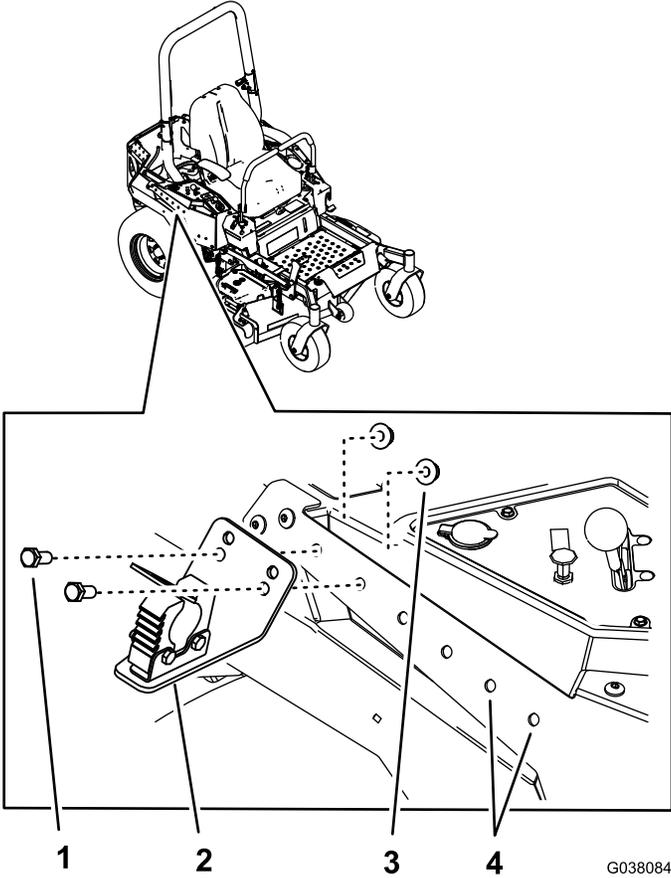

Figure 7
2. Install the rear mount assembly to the right side panel on the machine using 2 bolts (3/8 x 7/8 inch) and 2 nuts (3/8 inch) as shown in Figure 7.